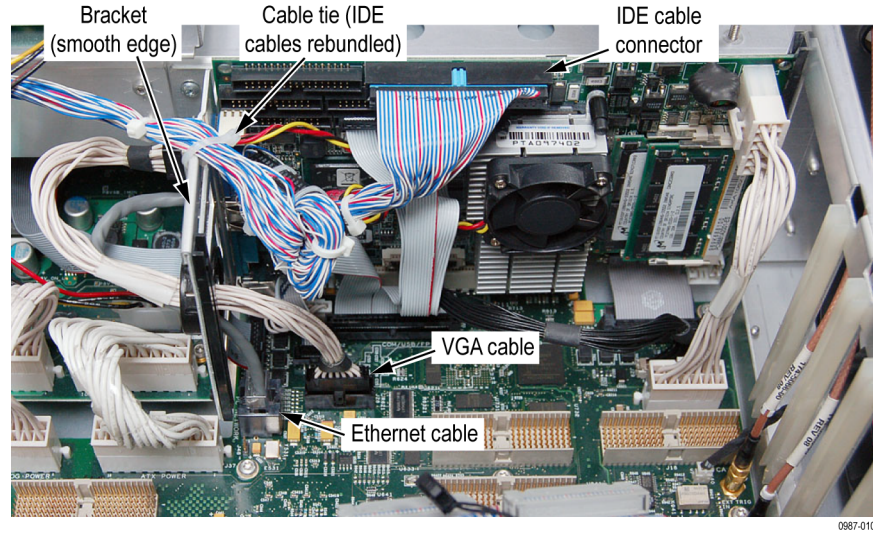

Figure 12: IDE cables and cable tie location (for Options 06 and 08)
7. Reconnect the IDE cable to the Slot PC board. (See Figure 12.)